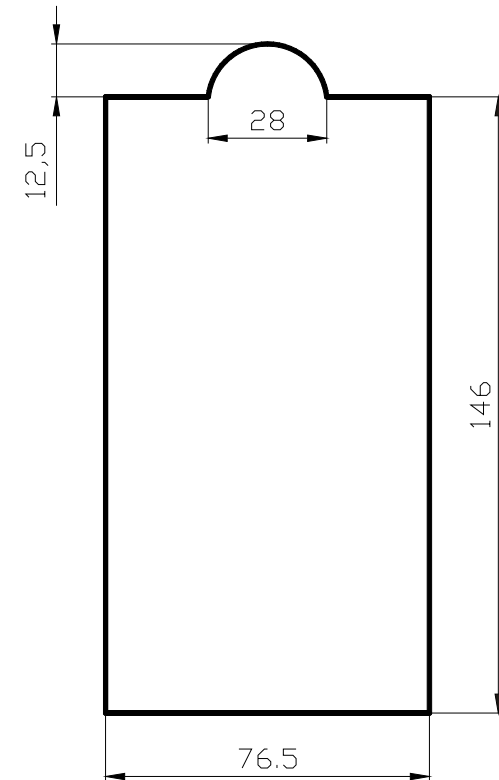

Fig.9-6 ZR Operator Panel Hold Dimension
- The hole dimension of the installation socket is as shown in Fig.9-6.